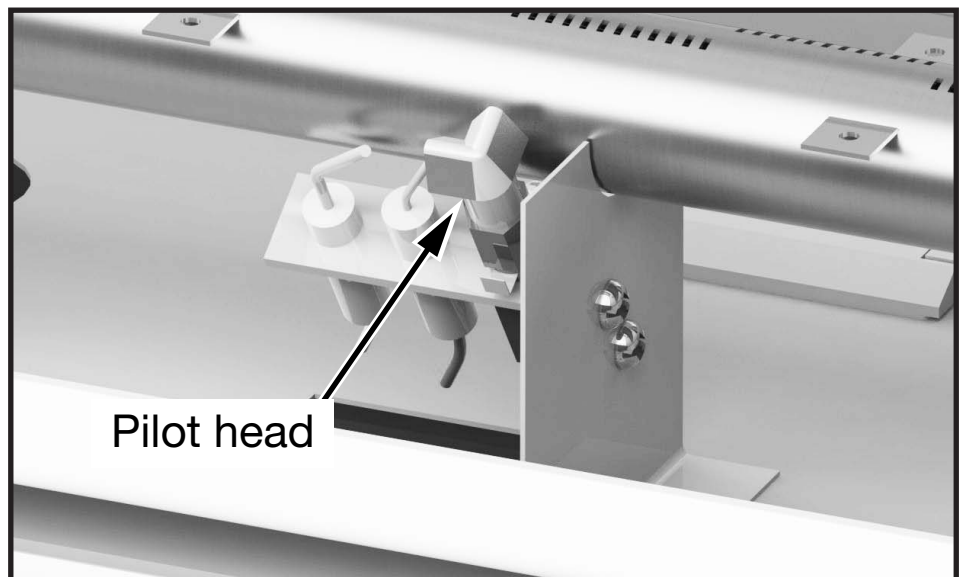
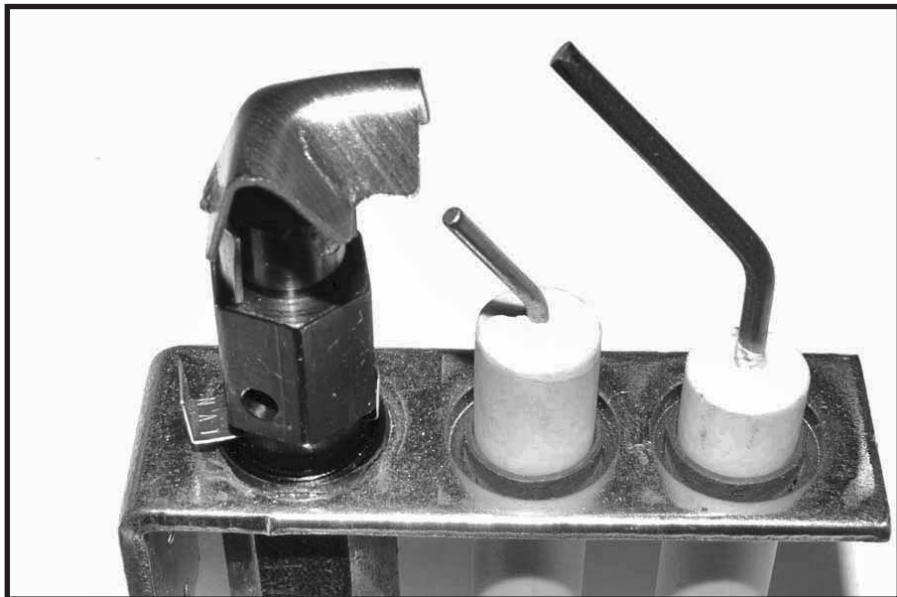

Figure 44: Pilot head.
Figure 45: Pilot band in natural gas position.
6. With a 7/16" wrench loosen the pilot head on the pilot assembly (Figure 44 and Figure 45).